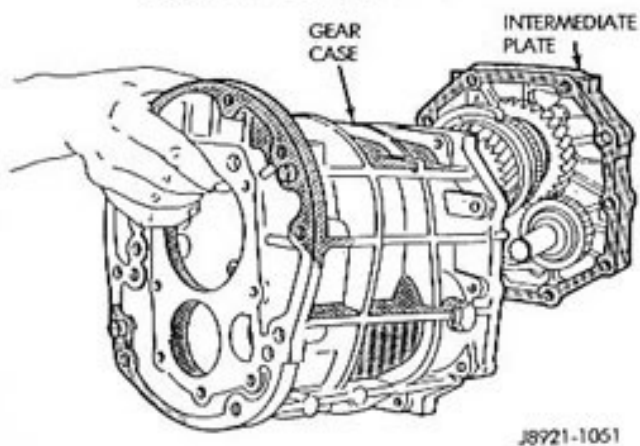

Fig. 21 Gear Case Removal
- (6) Remove the gear case from the geartrain and intermediate plate (Fig. 21).